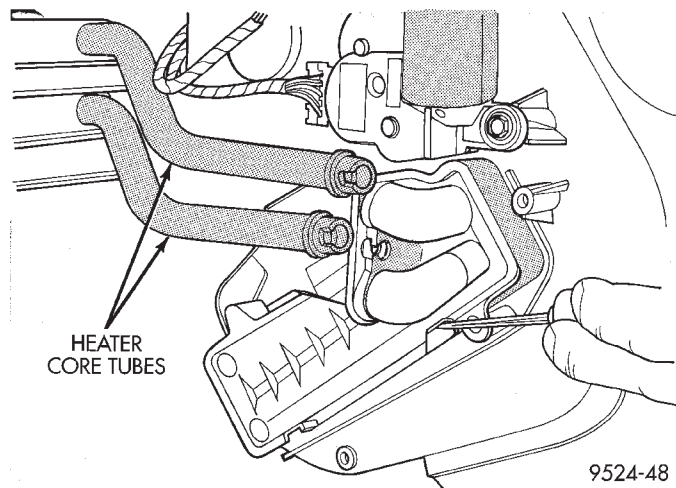

Fig. 35 Depress Clips
- (9) Depress heater core retaining clips (Fig. 35).